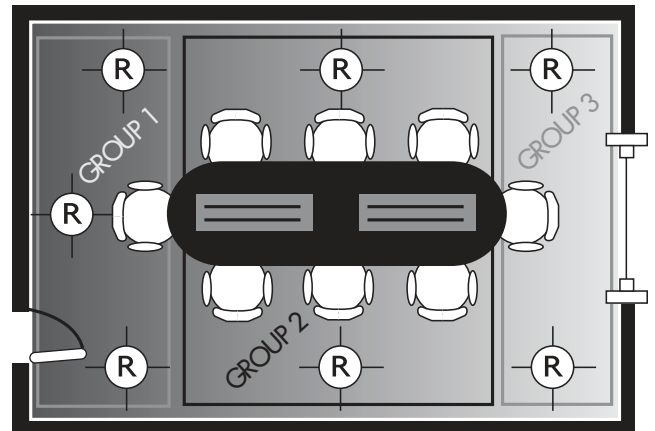

Fig. 1 DaliPro Conference Room
- Define the desired groups (See Figure 1).